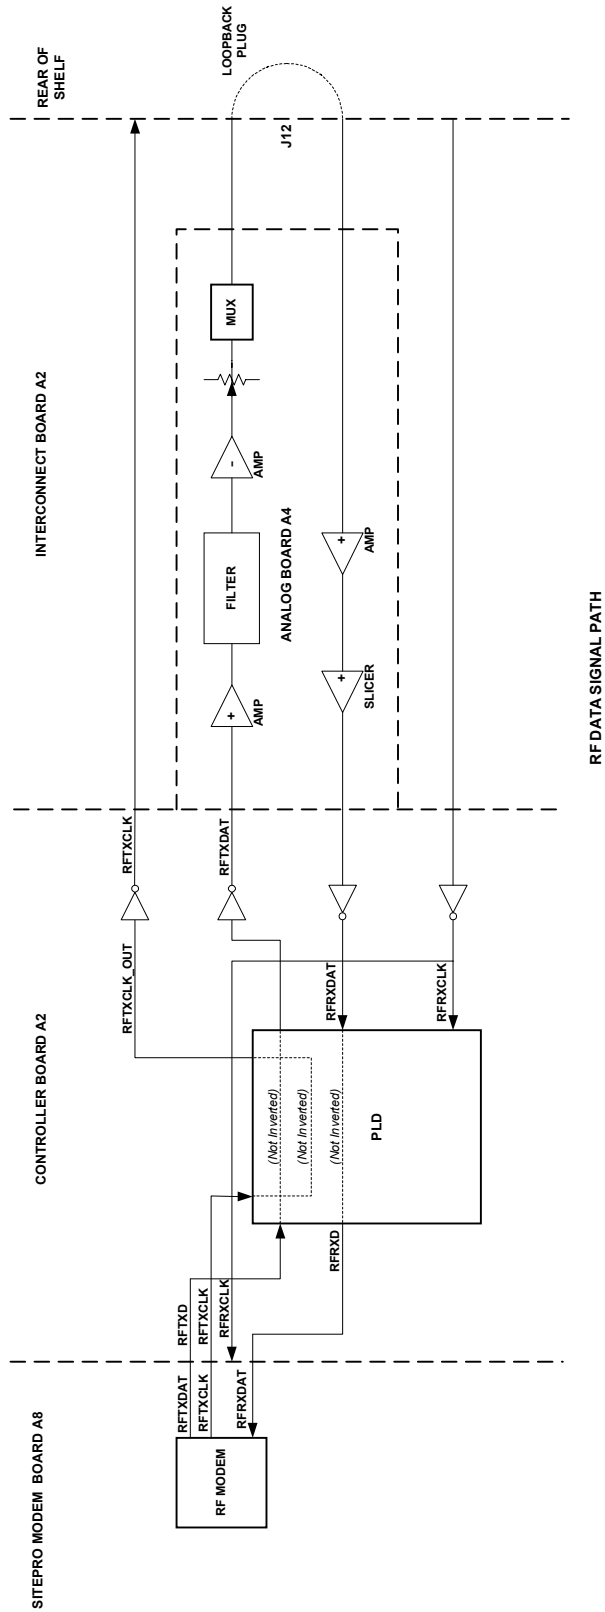
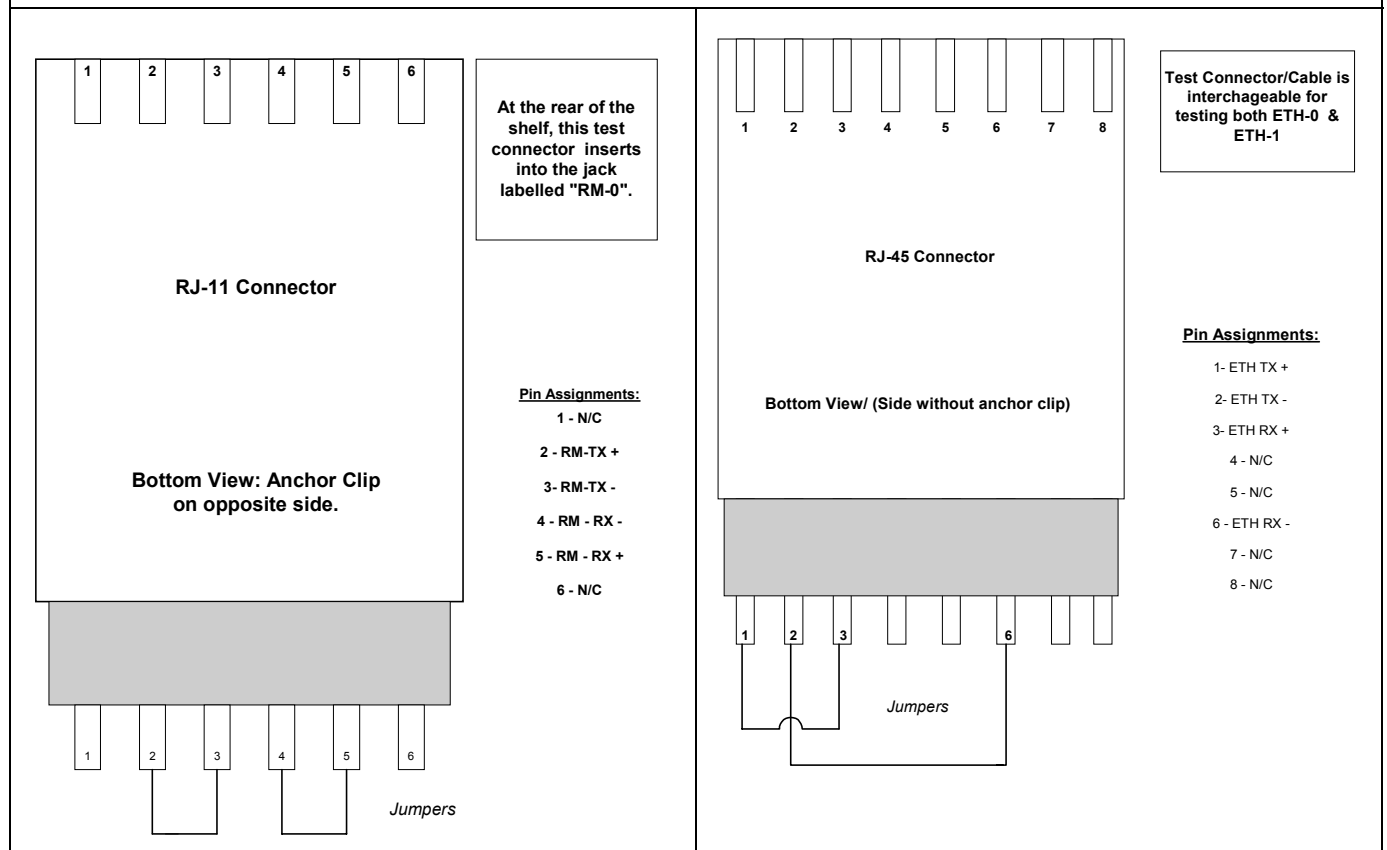

Figure 14 - RF Data Signal Path
Figure 16 - Loopback Test Connectors
1. Connect a loopback plug(Figure 16 - Loopback Test Connectors) into J12 (EDACS Connector) on the rear of the shelf (Refer to Figure 14 - RF Data Signal Path).